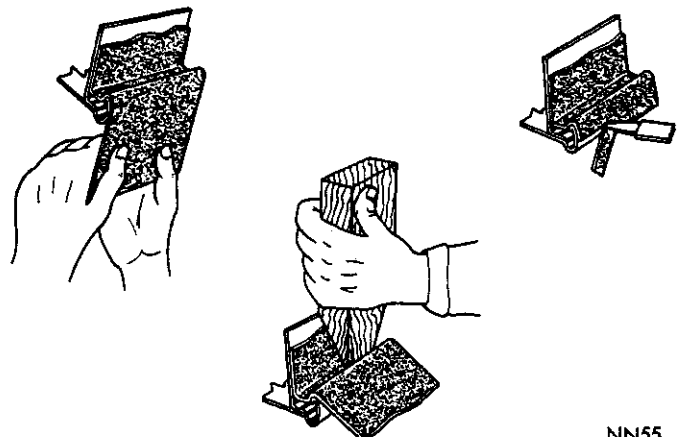

Fig. 8—Positioning Cover at Sides
(16) Grasp outboard edge of cover and while pulling material outward and down, use upper edge of drain trough flange as a breakover for draping material on to outboard drain trough flange face (Fig. 8). **Care must be taken to avoid pulling loose the cover material applied to base of drain trough.**
(17) Press material against drain trough flange face for full length of outboard sides of roof cover.
(18) Trim excess material hanging below drain trough flange about 1/8 inch above lower edge of flange (Fig. 8).